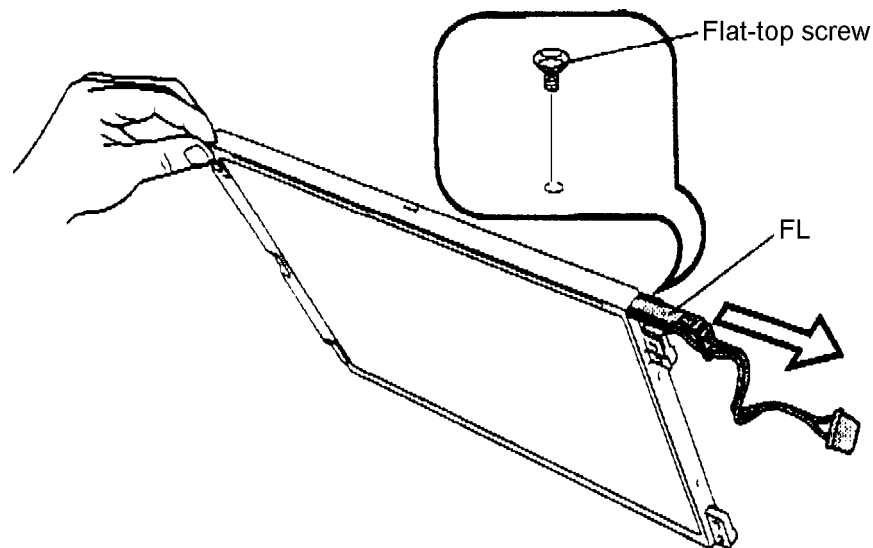

Figure 4-45 Removing the FL
To remove the T4850CT's FL, follow the steps below and refer to Figure 4-45.
To install the T4850CT's FL, follow the steps below and refer to Figures 4-45 and 4-46.
3. When you are sure the **optical shield** and **diffusion bar** are aligned, slide the **FL** fully into the **LCD module** and secure it with the **flat-top screw** (Figure 4-45).